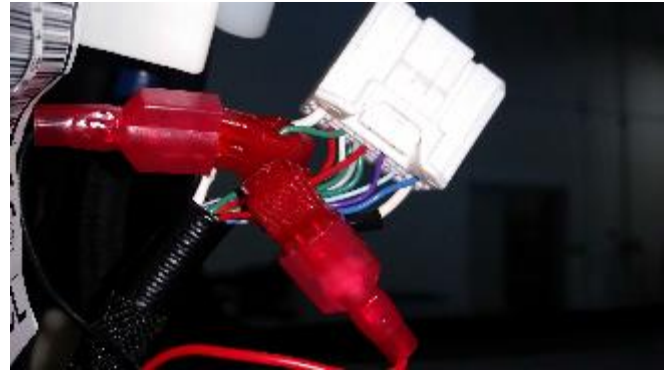

Figure 21
33. Using a Red T-tap, connect the **Red** wire from the puddle light power harness to the **Red** wire in **Pin 13** of the **FS1** connector in the A-pillar (Figure 21).
34. Using a Red T-tap, connect the **Black** wire of the puddle light power harness to the **Green** wire in **Pin 15** of the **FS1** connector in the A-pillar (Figure 21).